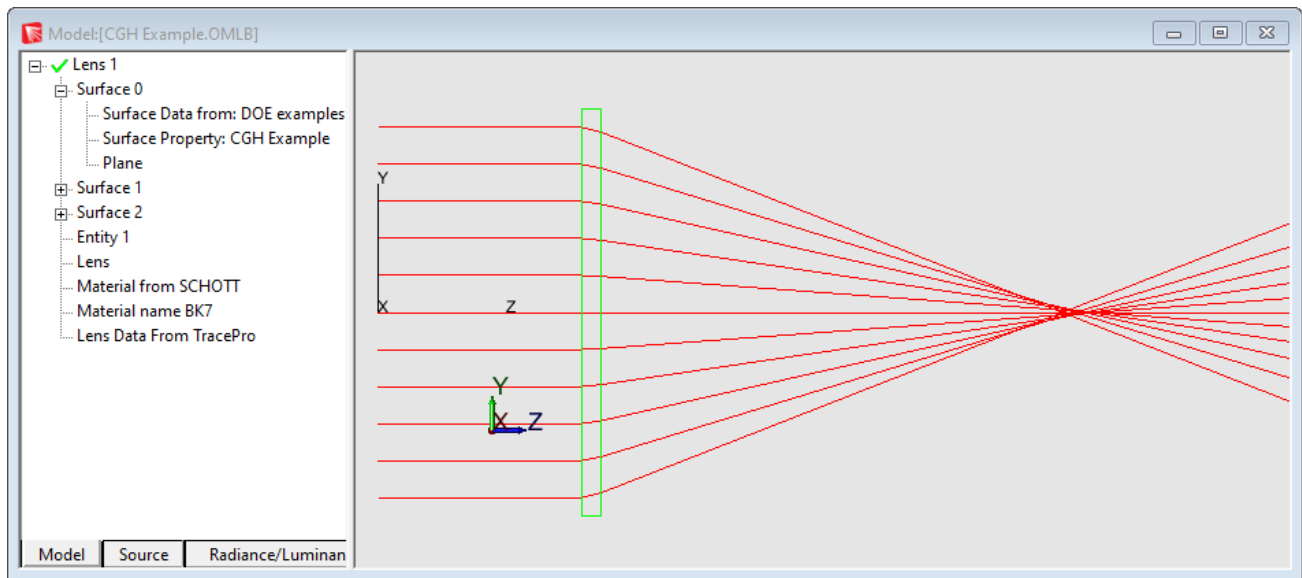

Figure 13. CGHサーフェス特性を適用したレンズ要素を通しての光線追跡
11. Trace rays and observe that the diffracted rays converge behind the Lens Element as shown in Figure 13.